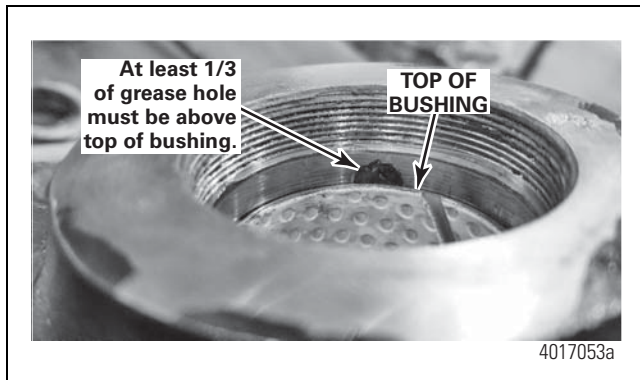

Figure 6.3
*NOTE: On some MFS12-14 knuckles with integral tie rod arms built prior to July 2019, it is possible that upon replacement of the king pin bushing, a portion of the grease hole will be covered by the bushing. Adjust bushing installation as necessary to ensure that more than 1/3 of the hole (top of the grease hole to the top of the bushing) is exposed above the bushing for proper grease flow. Figure 6.3.